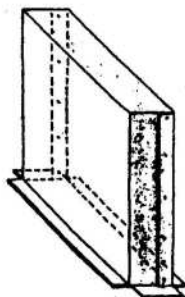

Fig. 4
8. Put together front and back adapter pieces, holding them together while drilling. (Figure 4 or 5 as appropriate.)